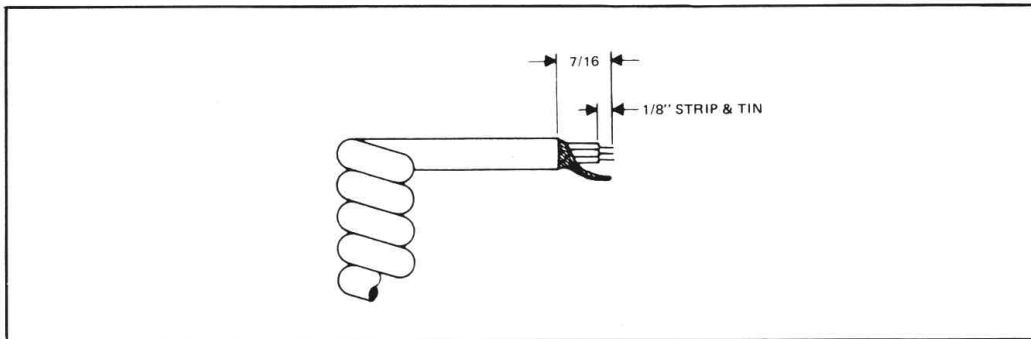

Fig. 2. Microphone Cable Preparation
1. Cut leads so that they extend $7/16''$ beyond the plastic insulating jacket of the microphone cable (see Fig. 2.)